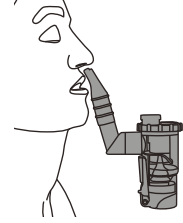

Figure 20
- During inhalation, the nosepiece must be connected to the nebulizer using the adapter. Then hold the nosepiece to the nose (Figure 20).